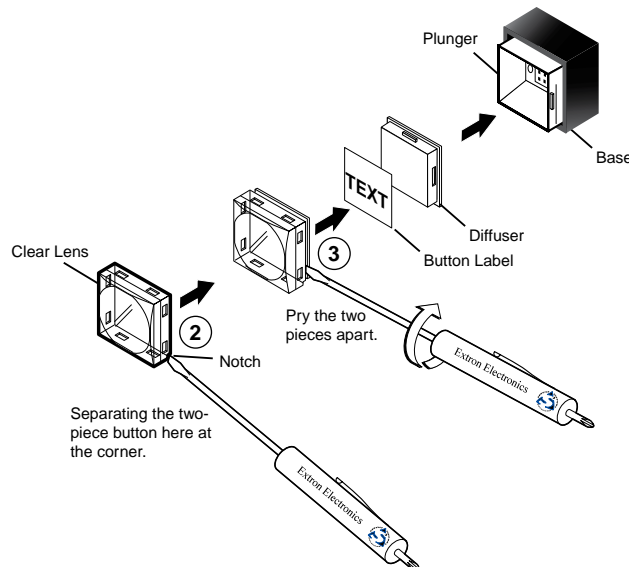

Figure 102. Replacing a Button Label
1. Remove the button assembly by inserting a small, flat-bladed screwdriver, such as an Extron Tweeker, between the button base and the diffuser to gently pry the button assembly off the button plunger, as shown in figure 102.
2. Locate the small corner notch on the clear lens cap, and slide the screwdriver between the lens cap and the diffuser (see ② in figure 102).
3. Using a rotating motion of the screwdriver, carefully pry the two pieces apart (see ③ in figure **102**).